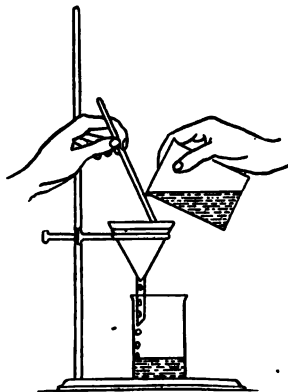
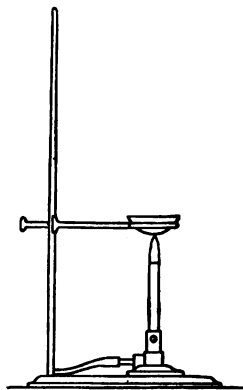

FIG. 7
FIG. 8
**3. Pouring a liquid from one vessel to another.** In this operation care must be taken to prevent the liquid from running down the side of the vessel from which it is poured. A glass rod should be held lightly against the rim of the vessel, as shown in Fig. 7. The liquid will flow down the rod. Fill a beaker with water and transfer it slowly to another
The process of filtration not only enables us to separate liquids from solids but also certain solids from each other. To illustrate this fact, grind a piece of chalk to a powder in a mortar and mix the product intimately with about an equal bulk of common salt. Now separate the two solids as follows: Place the mixture in a small beaker, add about 50 cc. of distilled water, and stir with a glass rod. (The sharp ends of the rod must be rounded by rotating them in a flame, otherwise the beaker may be scratched and broken.) The salt dissolves, forming a *solution*. Filter off the insoluble chalk, collecting the *filtrate* (the clear liquid which passes through the filter paper) in a beaker (Fig. 7). The salt may be recovered from the filtrate by the process of *evaporation*. To perform this operation, pour the filtrate into an evaporating-dish, then support the dish on a ring stand (Fig. 8) and heat gently. The tip of the flame should not quite touch the dish. The liquid may be made to simmer, but should not be made to boil violently (why?). Withdraw the heat as soon as the water is evaporated. Note the residue left. Convince yourself that it is salt.